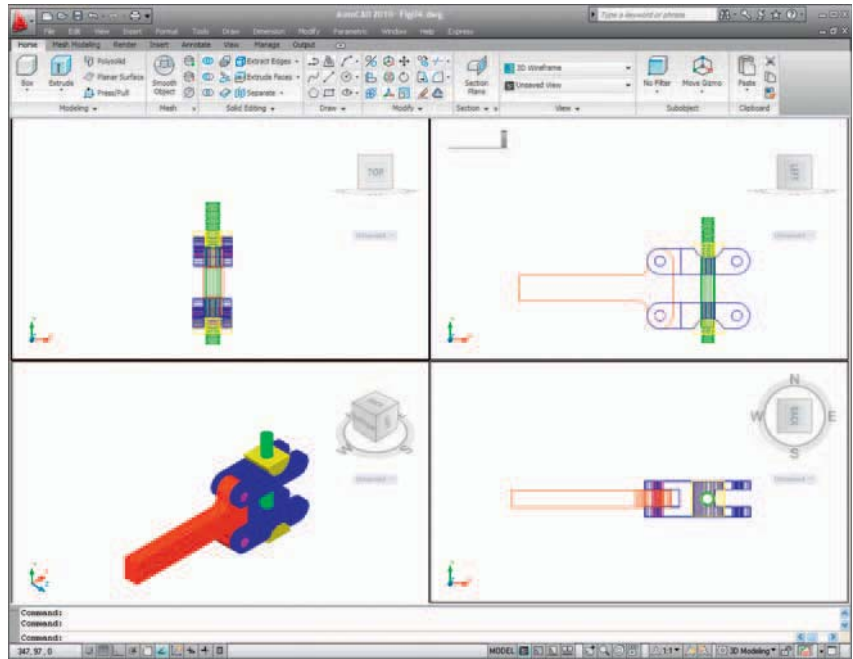

Fig. 14.4 First example – Inserting 3D blocks
First example – inserting 3D blocks (Fig. 14.4)
7. Using the **Move** tool, move the individual 3D models into their final places on screen and shade the **Isometric** viewport using **Conceptual** shading from the **Home/View** panel (Fig. 14.4).